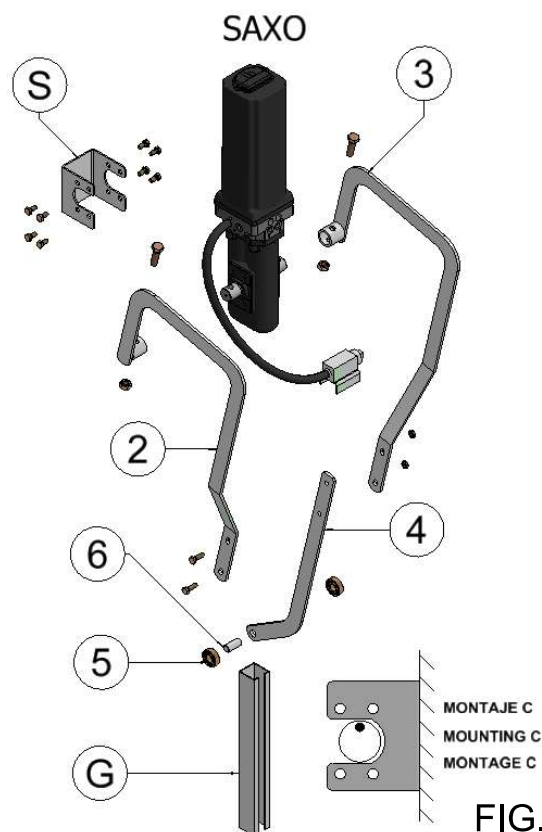

FIG. 7
Installation accessories Figure 7.
2. The point marked on the rotary shaft on the right-hand side of the operators 1RM* and 2RMI* must be as shown in figure 7. Before welding parts "1", "2", "3" and "4" of figure 7 to the operator as shown in figure 7 the operator should be rotated approximately 5 degrees away from the end position. Then fit parts "5" and "6" of figure 7.
3. Fix part "G" of figure 7 to the door as shown in figure 5.